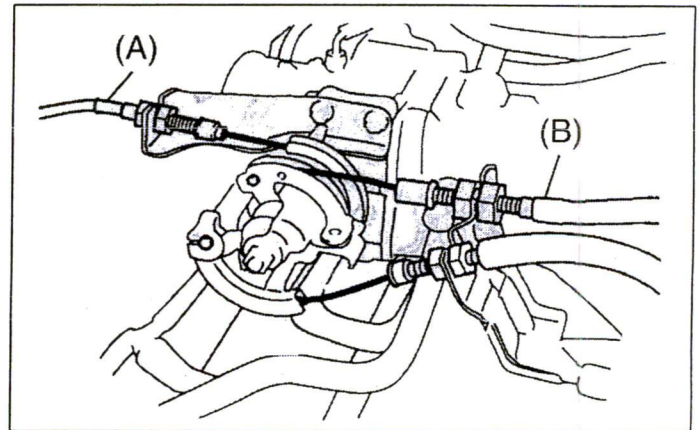

Figure 2
- Disconnect the following cables (if applicable) from their mounting brackets (Figure 2).